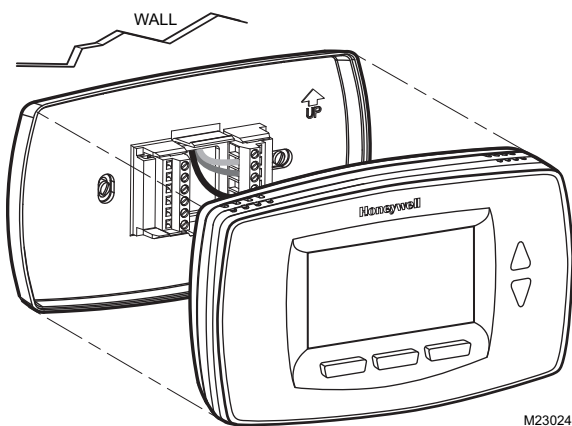

Fig. 39. Removing thermostat from subbase.
1. Remove the thermostat from the base by pulling it straight out. (See Fig. 39.)